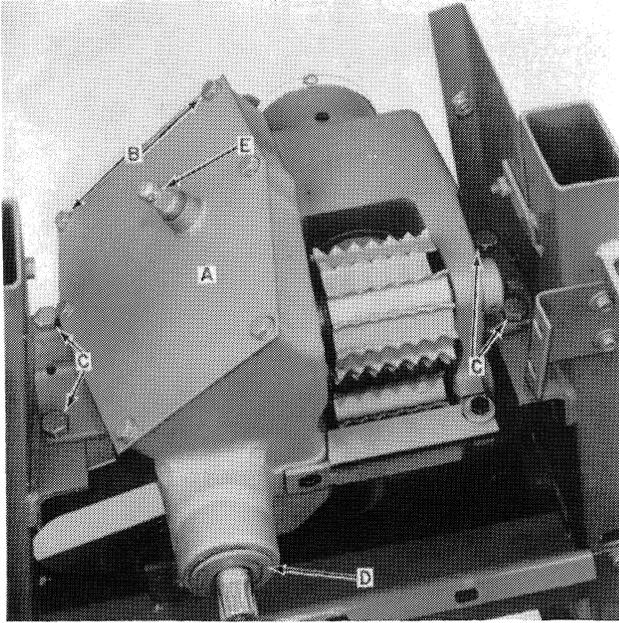
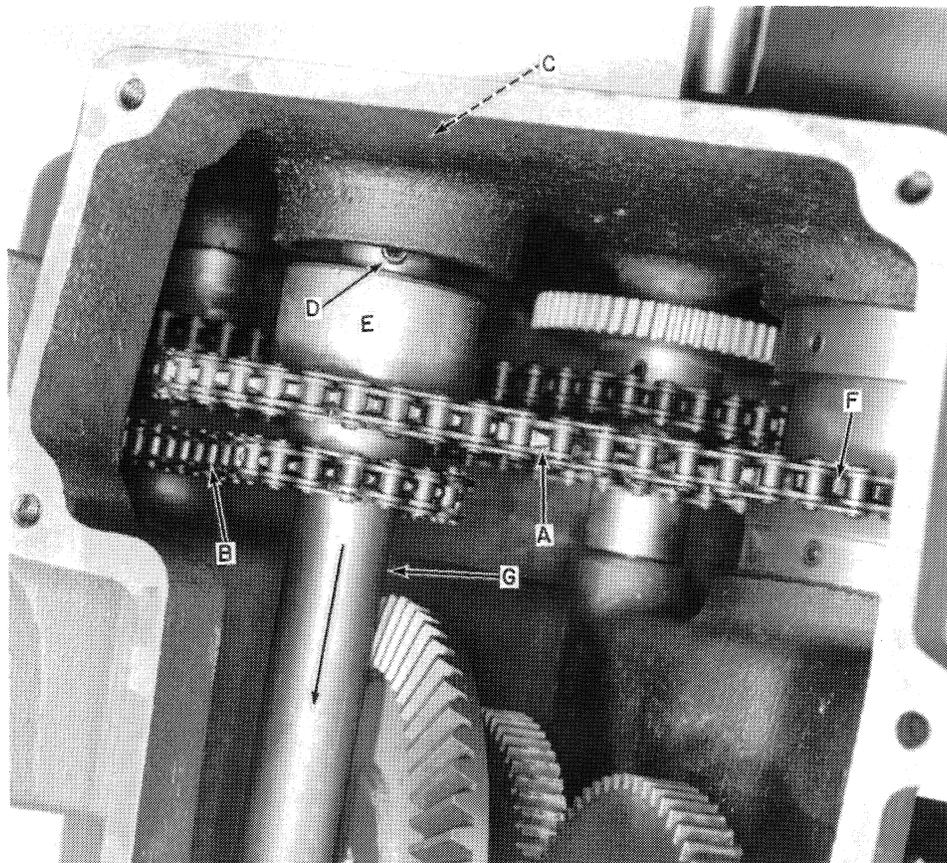
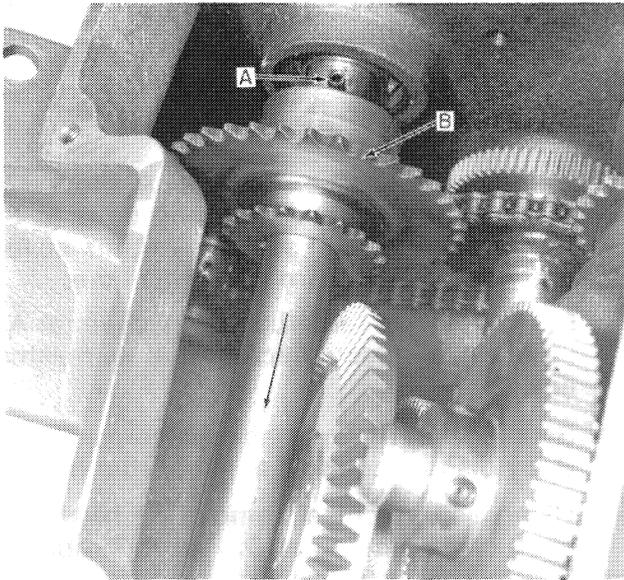
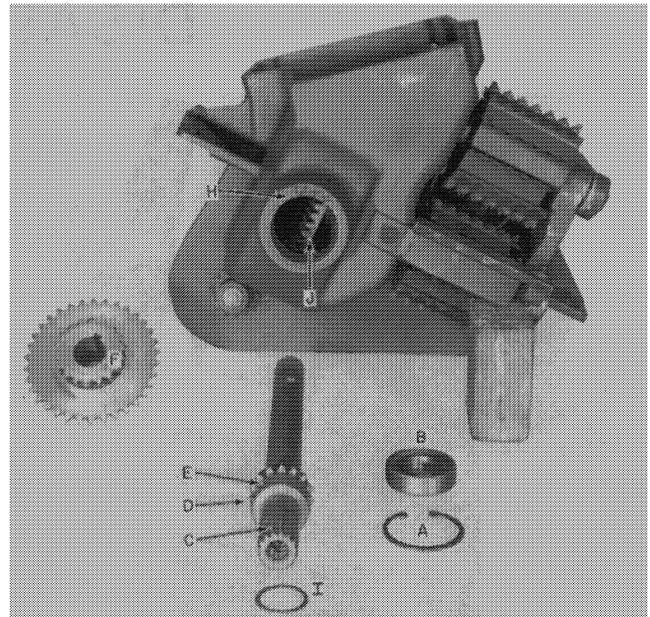

FIGURE 7
FIGURE 8
FIGURE 9
FIGURE 10
8. Remove the four $\frac{1}{2}$ " mounting bolts at C, Figure 7, and remove the gearbox from the tobacco leaf stripper main frame.
1. Remove the gearbox cover at A, Figure 7, by removing the six mounting bolts at B. Remove the gasket sealer from this cover and drain the gearbox oil at this time.
2. Remove the in-feed tube drive chain at A, Figure 8, by disconnecting it at its master link.
4. Using a sharp chisel, remove the two input shaft seals located at D, Figure 7, and C, Figure 8.
5. Remove the outer snap ring located just behind the seal at D, Figure 7.
6. Slide the input shaft toward the rear of the gearbox as indicated by the arrow in Figure 8. Slide this shaft just far enough to gain access to the roll pin at D, Figure 8, as shown at A, Figure 9.
7. Loosen the set screws in the double sprocket at B, Figure 9, and continue sliding the input shaft, C, Figure 10, toward the front of the gearbox, and completely out of the gearbox. As this shaft slides out of the gearbox, it will disconnect from the double sprocket at F, Figure 10, (also shown at B, Figure 9).
You will have removed the snap ring at A, Figure 10, prior to taking the shaft out, but as you take the shaft itself out of the gearbox, note that the bearing, B, shim pack, I, friction pin, D, and pinion gear, E, will all be assembled on the shaft. All these parts can be removed from the shaft at this point.